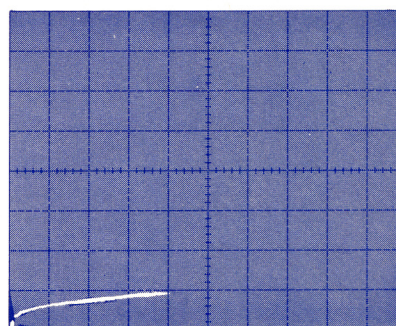

Figure 5-2. Display of pinch-off voltage V_p in the storage mode.
- 7) Calculate V_p and compare to specifications — Using formula: $V_p = \text{multiplier from OFFSET MULT X STEP/OFFSET AMPL}$, calculate V_p . Compare to specified value. See Figure 5-2. 24 20